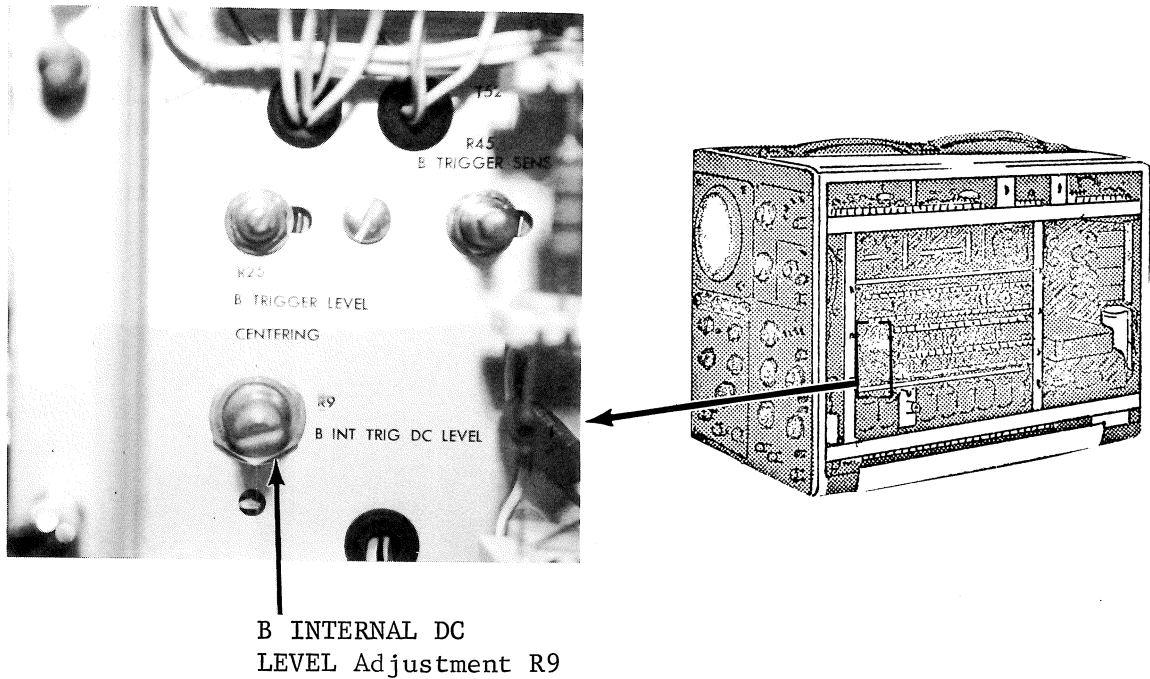

Figure 39
4. Adjust the INTERNAL DC LEVEL adjustment (R9-See Figure 39) for a triggered display while moving the SLOPE switch from + (plus) to - (minus).